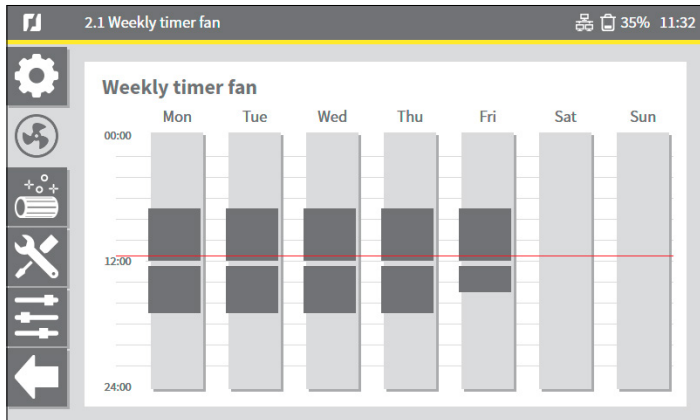

Fig. 4.3 Weekly timer setting (example)
Fig. 4.3 shows a graphical view of a weekly timer setting and shows an operating block in the morning and in the afternoon, including a lunch break. For Friday(s) different settings are made.
- Select the vertical bar Mon (Monday)⁶, which acts as a button (refer to Fig. 4.3).